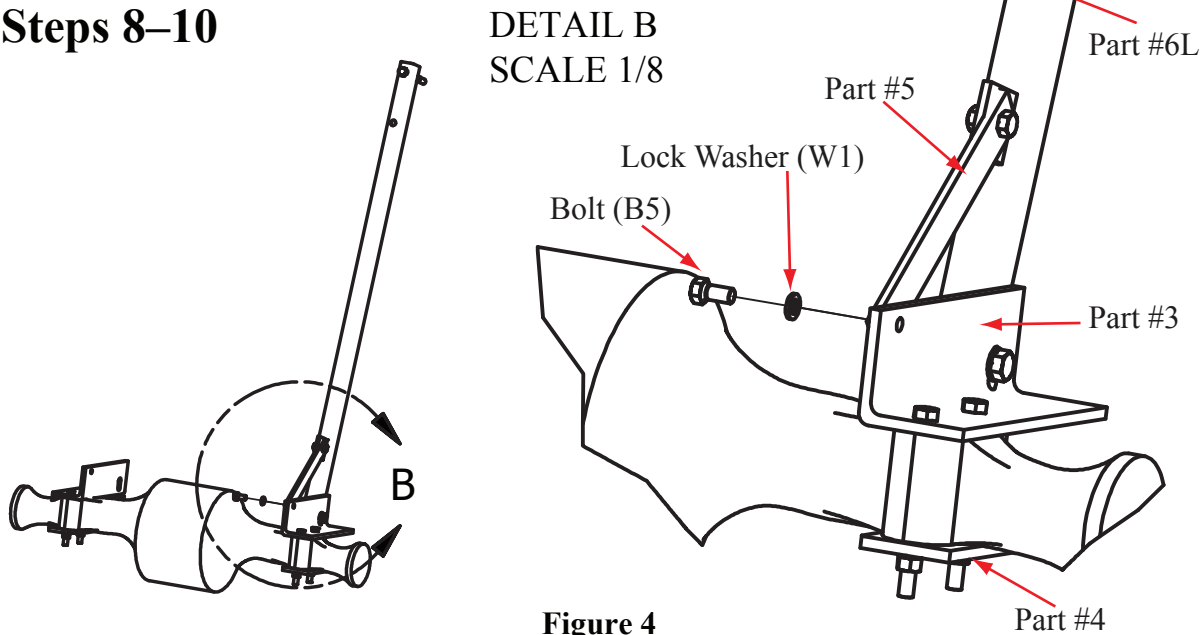

Figure 4
**Step 8.** Attach vertical tube bolted brace (#5) to the top left axle bracket (#3) with bolt (B5) and lock washer (W1). Tighten to a snug fit. (Figure 4)